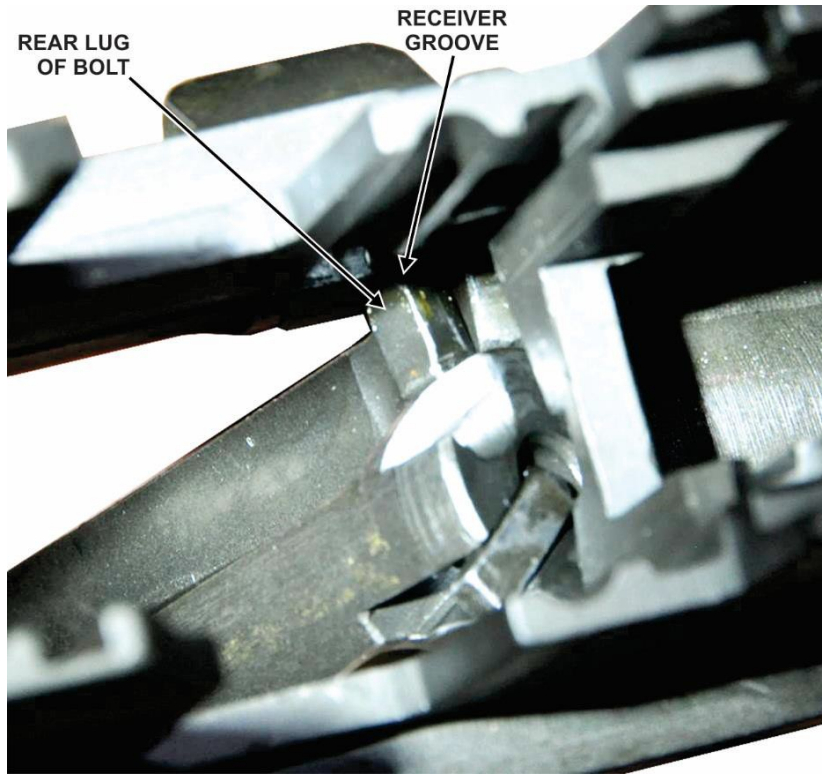

Figure 36. Rear lug in groove on receiver
- 6) To replace the bolt, hold the rifle upright and guide the rear lug of the bolt into its groove on the left side of the receiver (fig 36).
**Note: Figures 36 and 37 show the rifle inverted. It is not necessary to invert the rifle but the figures are provided to aid in the bolt insertion.**